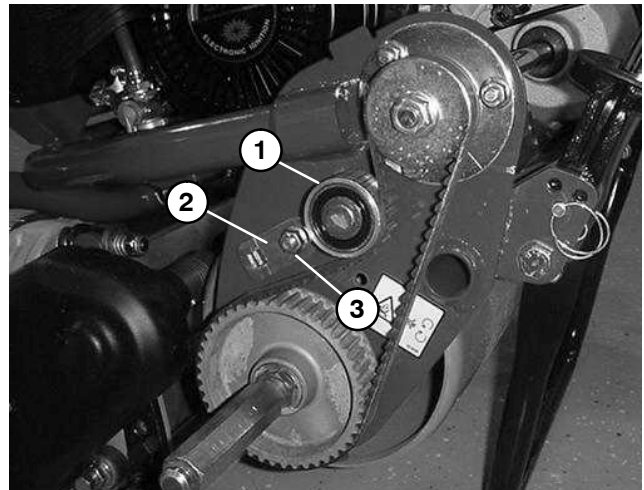

Figure 24
5. Remove cap screw, spacer, and flange nut on which the idler assembly pivots (Figs. 24 and 25). Remove idler assembly.
3. Position idler assembly using cap screw, spacer, and flange nut (Figs. 24 and 25). Tighten flange nut. Check that idler assembly can pivot after tightening.